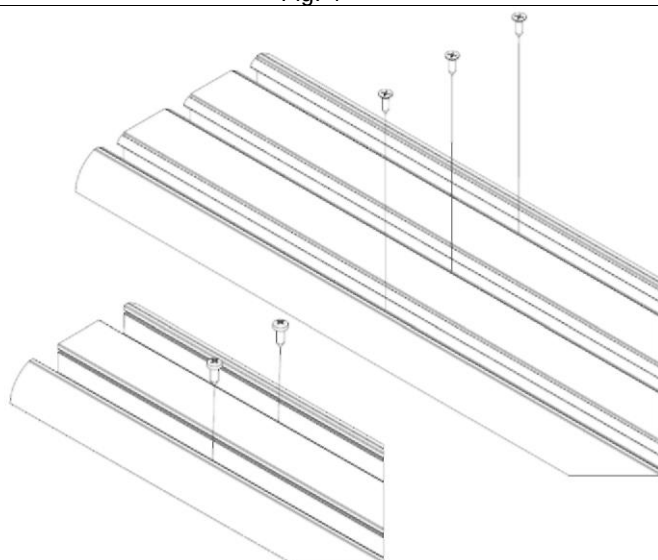

Fig. 5
5. Bolt down the bottom rail to the steel substructure using ST3.5x13 screws. Thoroughly clean the bottom rail by wiping or blowing with air to remove all debris (Fig. 5).